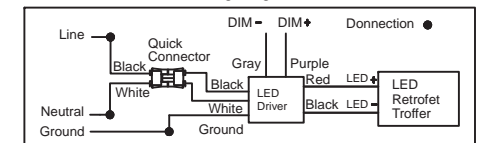

Figure 5
- Connect the wires together using the cap connector as shown in wiring diagram (Figure 5).